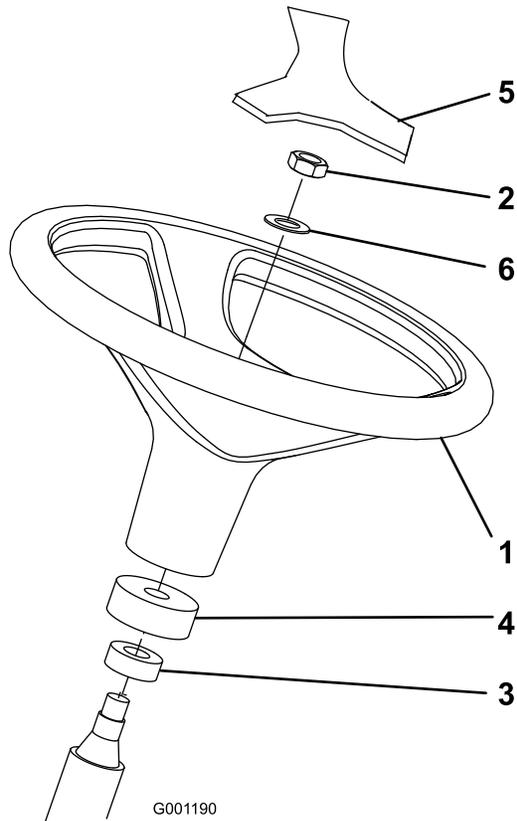

Figure 3
2. Remove the jam nut and washer from the steering shaft. Ensure that the foam collar and dust cover remain on the steering shaft (Figure 3).